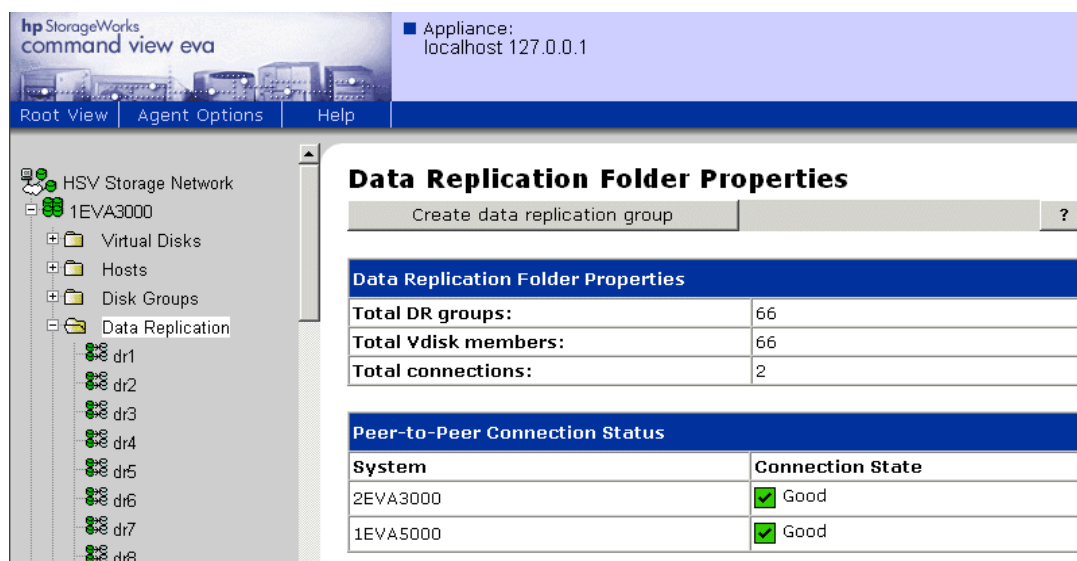

Figure 24: Data Replication folder
Command View EVA manages data replication functions by organizing Vdisks into data replication (DR) groups. DR groups allow you to manage the replication of a set of Vdisks. The Data Replication folder is accessible using the folder structure in the Navigation pane, as shown in Figure 24.